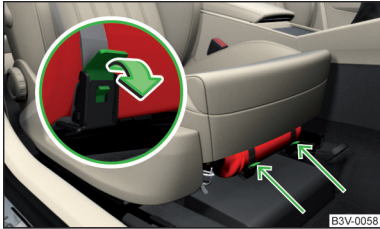

Fig. 327
- To **remove** the fire extinguisher, release the safety catches on the two belts in the direction of arrow » Fig. 327 and remove the fire extinguisher.